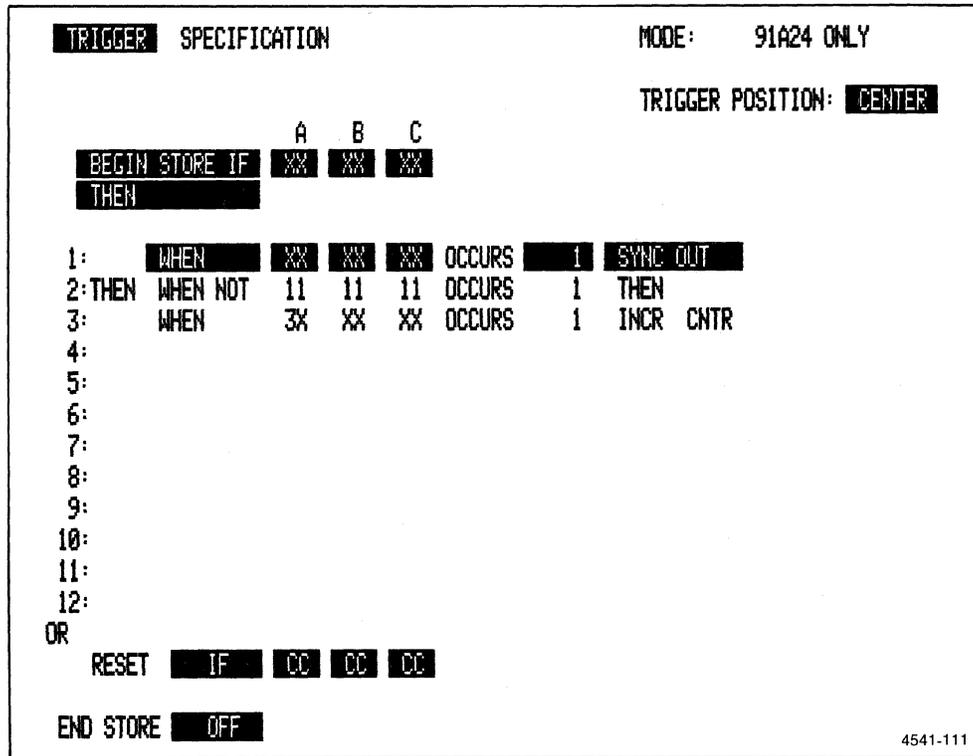

Figure 5-11. Trigger Specification menu setup for Functional Test 8.
4. Change the Trigger Specification menu to match Figure 5-11.